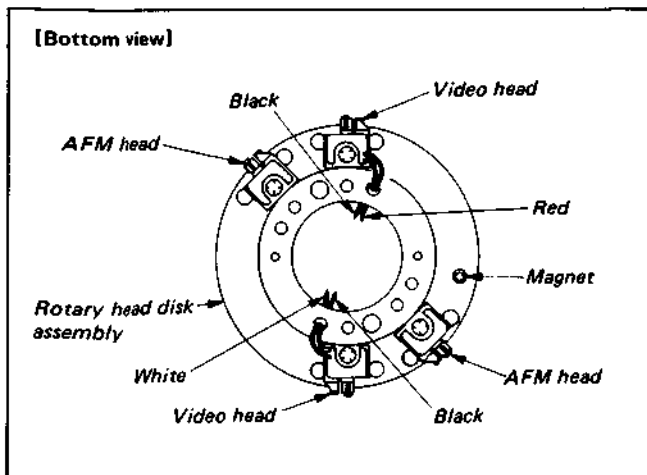

Fig. 3-4 How to refit rotary head disk (1)
- 1) Solder the four leads to the video head of the rotary head disk assembly. (Caution on correct orientation of the magnet.) Thread the leads through the holes (See Fig. 3-4).